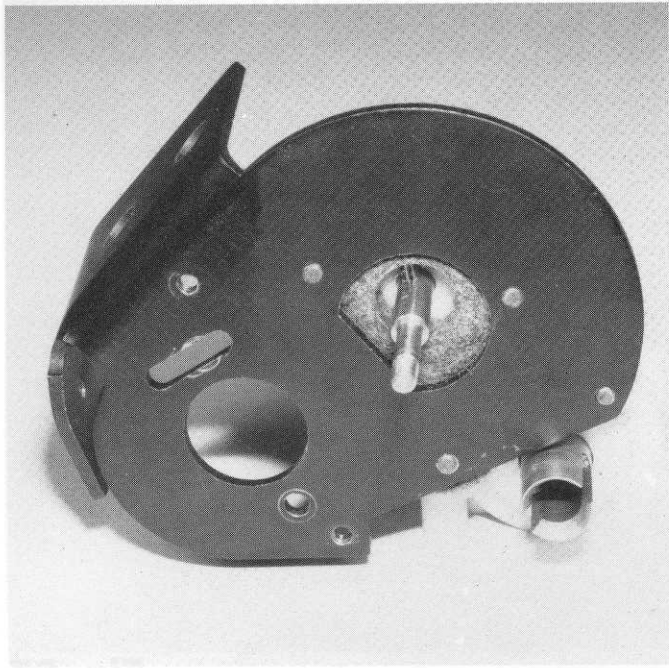

Fig. 69
□ **Figs. 69, 70 & 71** Now we'll assemble the clutch Torque Control assembly. Slip the #6583 clutch hub from Bag F onto the shaft, making sure the slots align with the pin.